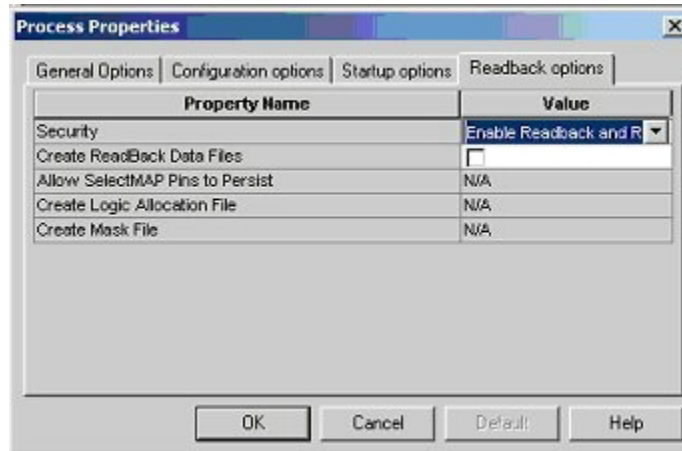

Figure 23. Readback options
11. Configuring generation of programming file process; Right click on **Generate Programming File** in the **Processes for Current Source** window. Select the **Readback Options** tab. Click the check box to the right of **Create ReadBack Data Files** (see figure 23). Then click the check box to the right of **Create Mask File**. Click Ok.